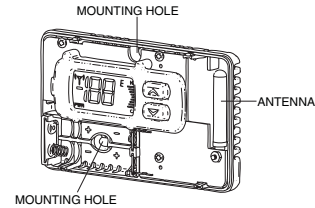

Figure 3 – Remote sensor base
- Enter the configuration as described in Thermostat Configuration Menu on page 10. Configure the thermostat for system operation. While in the configuration menu, enable the indoor remote wireless sensor (item 4) by changing OFF to ON.
- Once the ideal position for the sensor is determined, mark mounting holes using the sensor base as a template (Figure 3). The batteries will have to be removed to access a mounting under them.